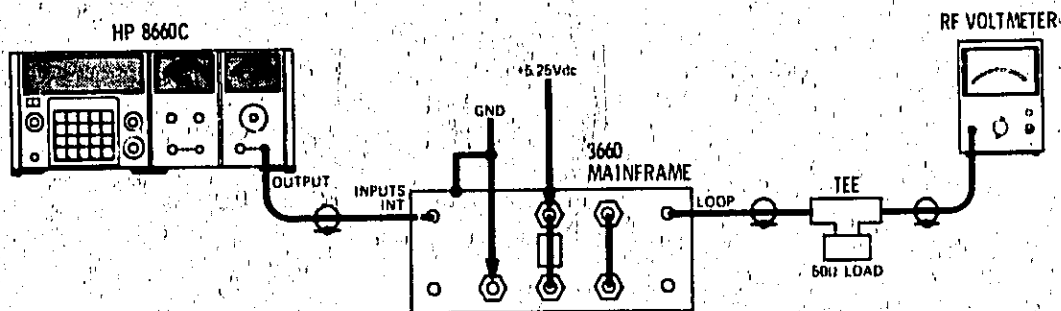

Figure 5-8. A22A1 Adjustment Test Setup (After Repair)
1. Connect equipment as shown in Figure 5-8. +5.25 Vdc must be connected to the junction of the inductor and feedthrough capacitor. The ground return must be connected to the chassis and the feedthrough capacitor.